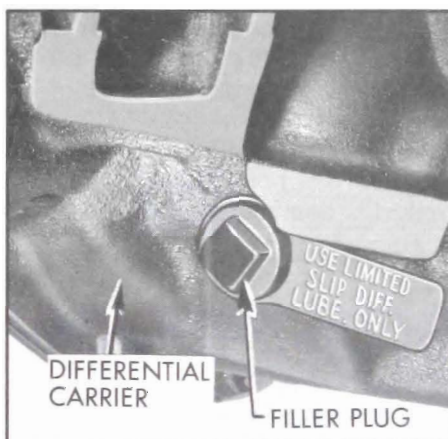

Figure 1-8—Differential Filler Plug (Positive Traction Shown)
6. Rear Axle. Check lubricant level after allowing time for lube to settle. Clean the surrounding area before removing filler plug. Level should be maintained at filler plug opening to 1/4" below by adding SAE 90 Multi-Purpose Gear Lubricant (MIL-L-2105-B). See Figure 1-8. When car is operated in temperatures continuously below - 10°F., use SAE 80 Multi-Purpose Gear Lubricant.
filler plug. Level should be maintained at filler plug opening to 1/4" below by adding lubricant conforming to Buick Specification #723 only, as specified in paragraph 1-9. See Figure 1-8.